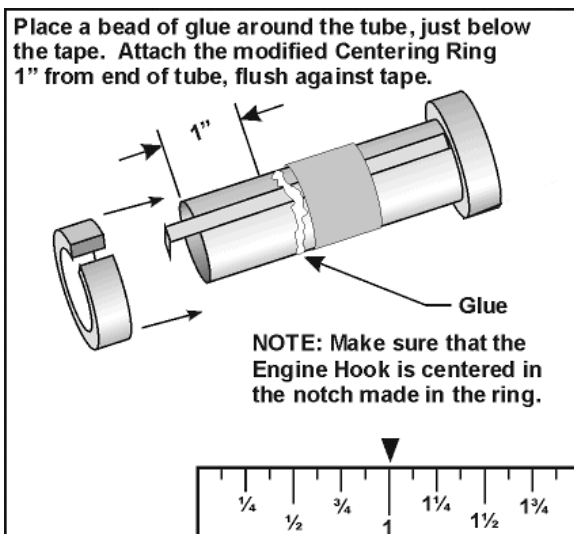

Figure 6
6. **Figure 6** shows how this modified ring is glued to the engine tube.